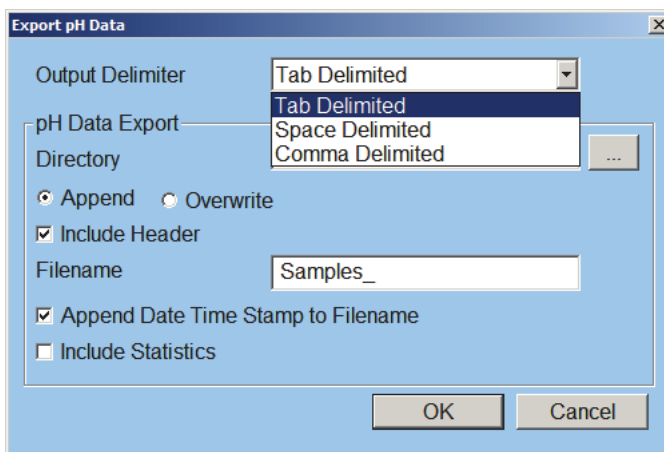

Figure 6.28. Export pH Data dialog box
- Complete the following Export Data options (refer to Figure 6.28):